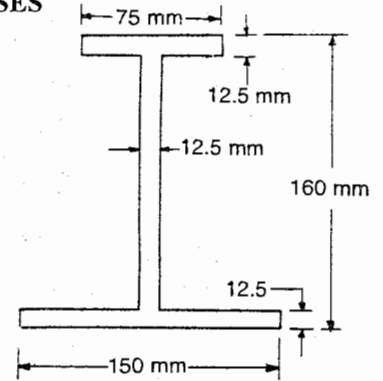

Fig. 6.28
5. Locate the centroidal axes and determine the moment of inertia about horizontal axis passing through the centroid of the section. fig 6.28